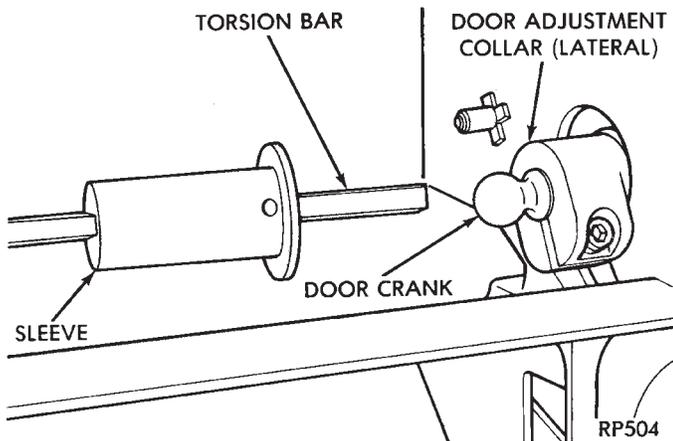

Fig. 4 Door Adjustment Collar
- (3) Slide the coupling sleeve from the door crank and loosen the door adjustment collar set screw (Fig. 4).